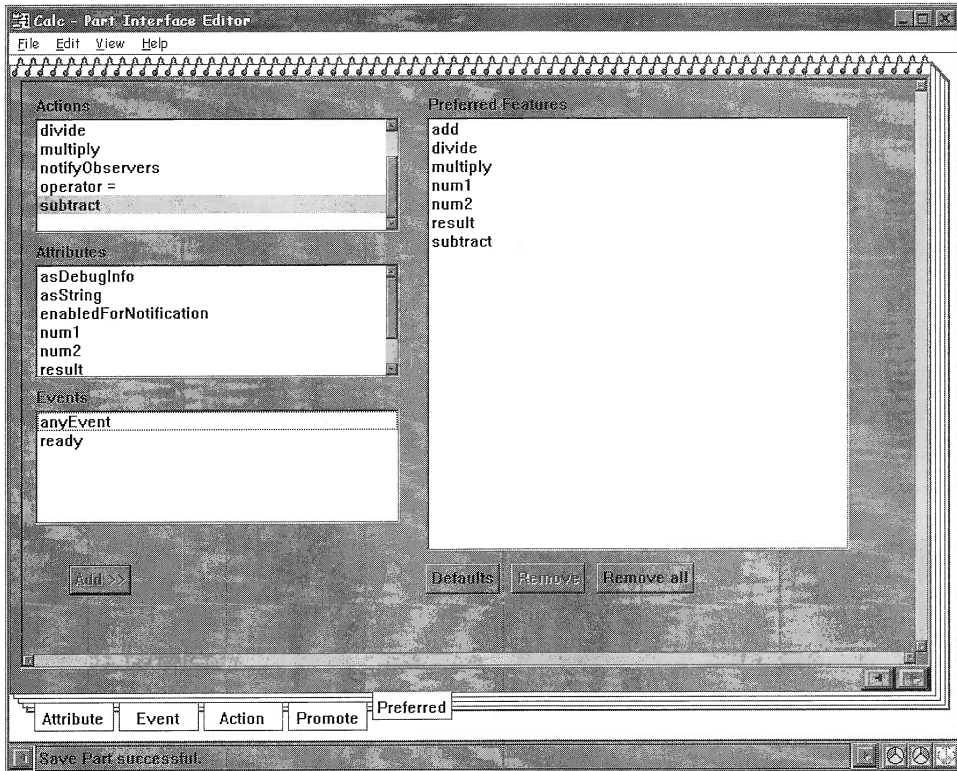

Figure 90: Preferred page of PIE for Calc part
- ❑ Select the **Preferred** tab in the PIE. Once on the preferred page, you find all the actions in the **Actions** list box listed in alphabetic order as shown in Figure 90.